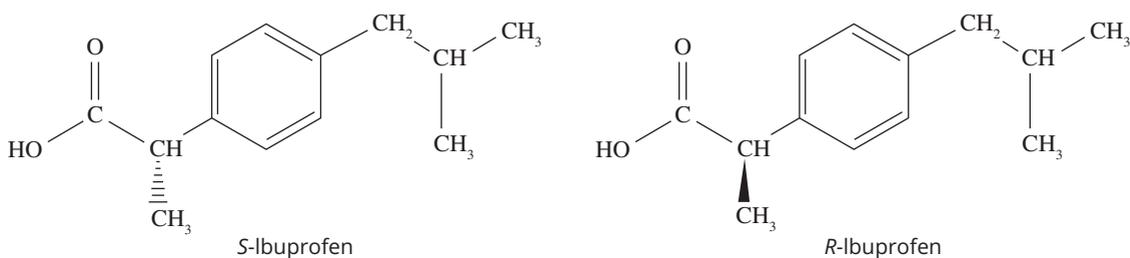

FIGURE 15.4.8 The enantiomers of ibuprofen
- **Ibuprofen:** The two enantiomers of ibuprofen are shown in Figure 15.4.8. *S*-ibuprofen is far more effective than *R*-ibuprofen. Separating the two forms is a slow process, but it leads to a far more effective product.